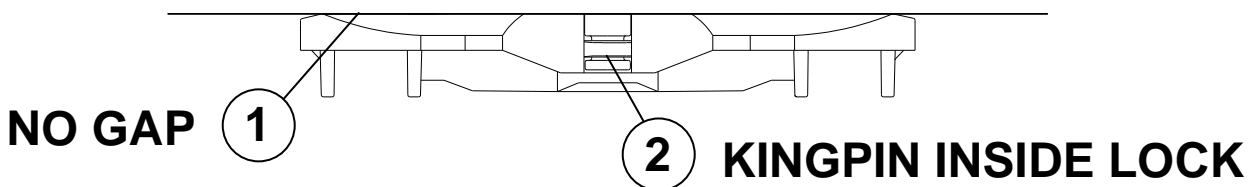

FIGURE 2
1. Check that there is **NO GAP** between the trailer bolster and the fifth wheel (see figure 2).
2. Check that the **KINGPIN** is **INSIDE** the **LOCK** (see figure 2).